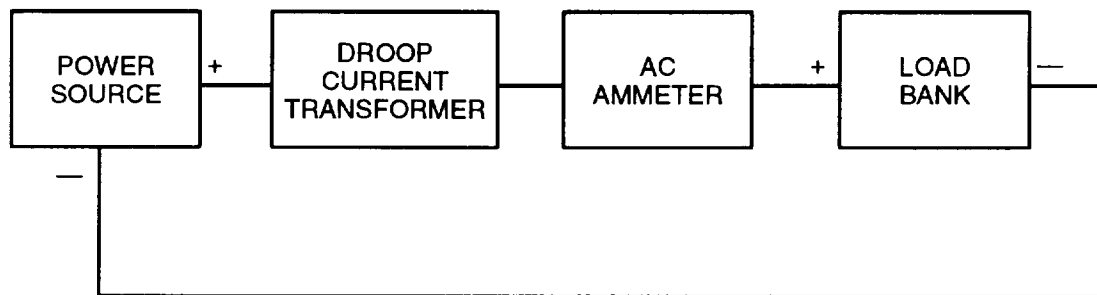

FIGURE 4-5. Testing Droop Current Transformer
- e. Unwrap main generator cables T2 and T8 from droop current transformer (34). Note number and direction of wraps.
- f. Tag and disconnect droop current transformer (34) electrical leads from terminal board (25).
- g. Remove screws (33), nuts (32), and droop current transformer (34) from output box.
- d. Set up a test circuit using 10 gauge wire as shown in FIGURE 4-5. Make ten passes with wire through window of droop current transformer.